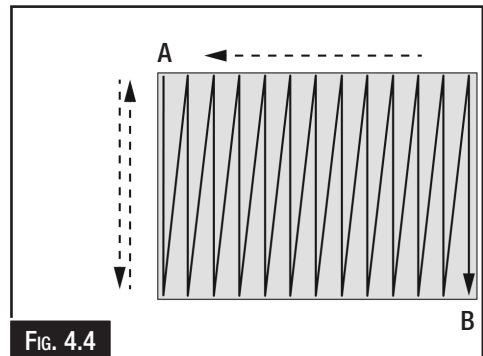

FIG. 4.4
7. When the wheels reach point B, feed the workpiece in the opposite direction and return to point A. (Fig. 4.4)